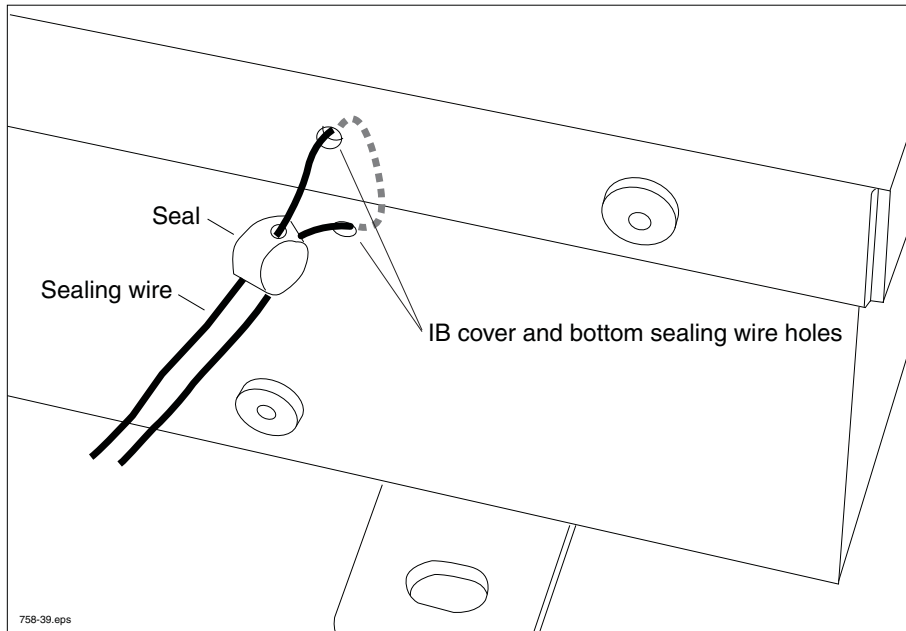

Figure 49. IB Sealing
The Interconnection Box (IB) cover is secured to the IB enclosure by 4 torx screws and a wire with a W & M seal. The sealing holes are located in both the enclosure box and the cover (see Figure 49). Removing the cover will destroy the seal.